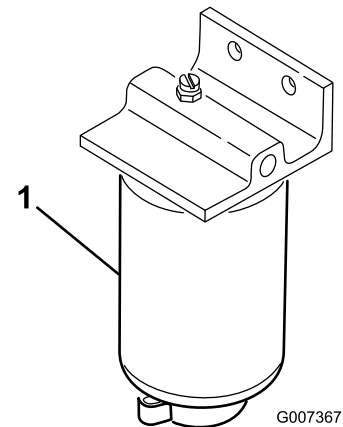

Figure 47
1. Place a clean container under the fuel filter (Figure 47).
2. Clean the area where the filter mounts (Figure 47).